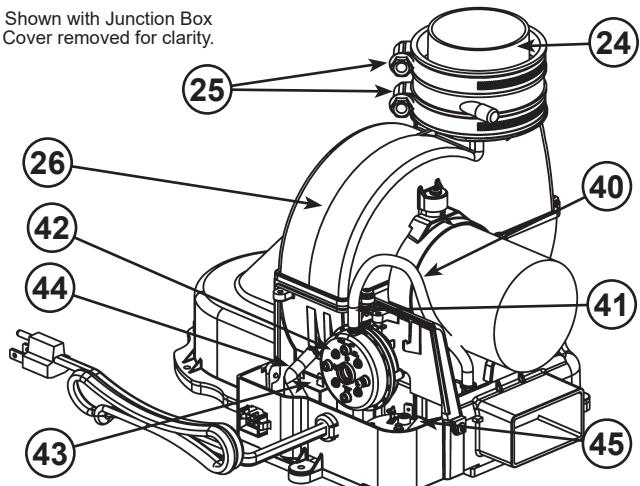

Figure 4.
| 1 Termination Elbow with Vent Screen                         | 22 Hot-Water Outlet Nipple/Anode   | 42 Intake Air Pressure Switch (NC) (inside box) (see Figure 4)  |
| 2 *Vent Pipe   | 23 *Inlet Water Shut-off Valve   | 43 Capacitor (see Figure 4)                                     |
| 3 *Vent Pipe Elbow (long radius)                             | 24 ***Rubber Coupling (see Figure 4)   | 44 Air Tubing (Exhaust) (see Figure 4)                          |
| 4 *Union (Di-electric water connection)                      | 25 Gear Clamp (see Figure 4)   | 45 Exhaust Air Pressure Switch (NO) (inside box) (see Figure 4) |
| 5 Cold-Water Inlet Nipple/Diptube                            | 26 **Blower with Power Cord (see Figure 4)   | * , ** , *** see notes on following page                        |
| 19 *Gas Supply*  | 40 Air Tubing (Intake) (see Figure 4)  |   |
| 20 Anode (under cap)   | 41 Blower High Limit Switch (see Figure 4)   |   |
This device is located on the blower (see Figure 4, item 41) and limits the maximum temperature of the blower. If the blower temperature rises above the temperature setting, the switch opens causing the heater to shut down.
The blower/heater is equipped with two air pressure switches located in the junction box (see Figure 4, item 42 and item 45). These devices are connected in series and monitor the air pressure produced by the blower. In the event that the exhaust venting becomes blocked or sufficiently restricted, the normally open (NO) air pressure switch will shut down the heater. In the event that the intake pipe becomes sufficiently blocked or restricted, the normally closed (NC) air pressure switch will shut down the heater.